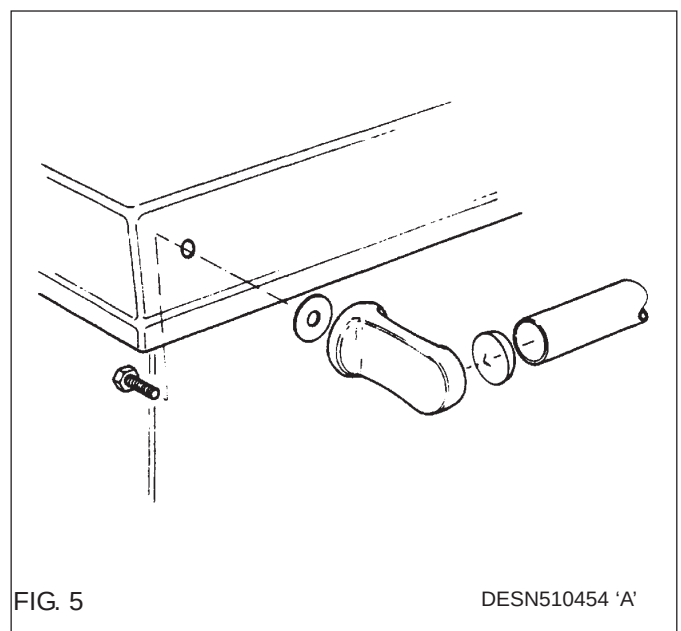

FIG. 5
3. Handrail & Brackets. See Fig. 5.
5. The handrail brackets are held on the front ends of the cooker top-plate casting. Remove the travel nuts and replace with the handrail brackets ensuring the fibre protecting washers are in position. Insert the handrail with fitted endcaps into the brackets, positioning them correctly, and tighten the locating bolts. See Fig. 5.